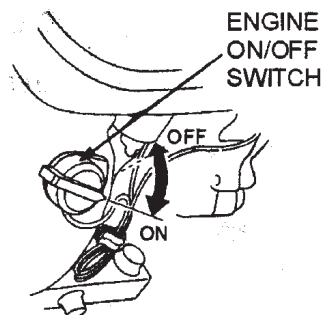

Figure 20. Engine ON/OFF Switch
5. Place the **engine ON/OFF switch** (Figure 20) in the "ON" position.